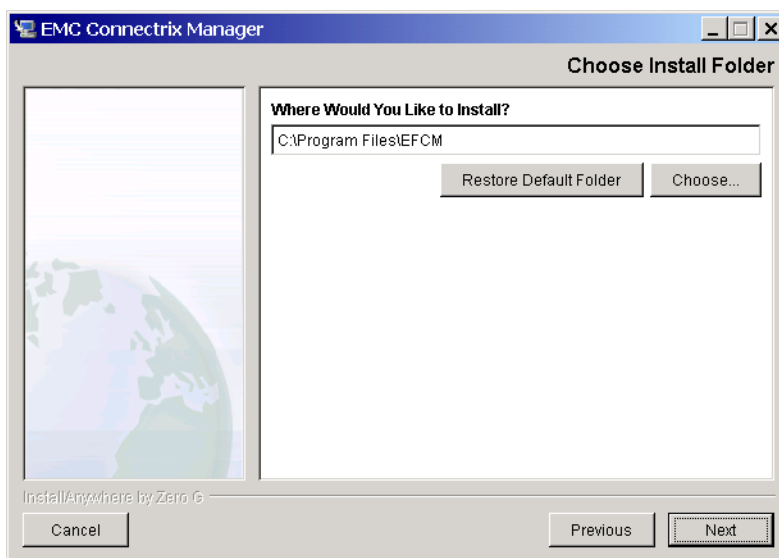

Figure A-23 **Connectrix Manager Installer — Select Install Folder**
9. Click **Next**. This displays the window shown in Figure A-23.